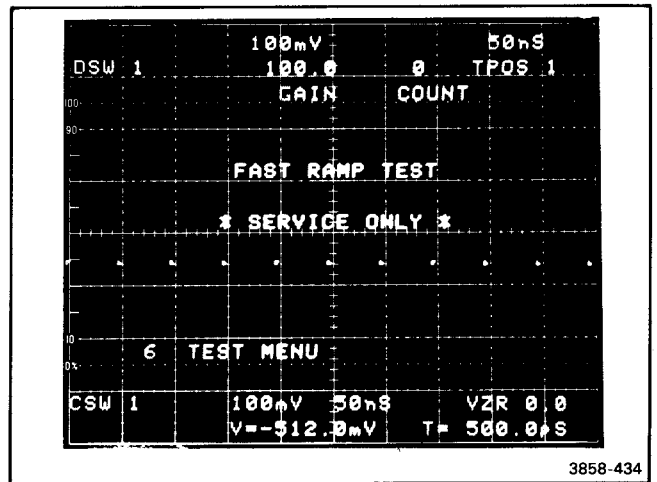

Figure 4-11. Gain Count readout.
- g. **EXAMINE**—Gain (see Fig. 4-11) is within limits of 99.7 to 100.3.